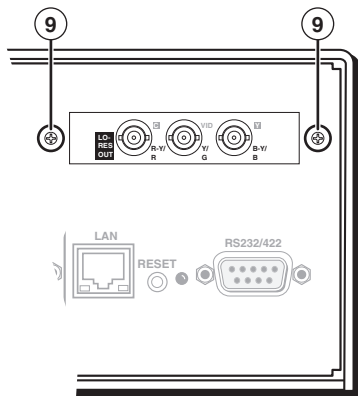

Figure 12 — Secure the output board to the rear panel
8. Secure the output board to the back panel with the two screws (9) removed in step 2 (figure 12).